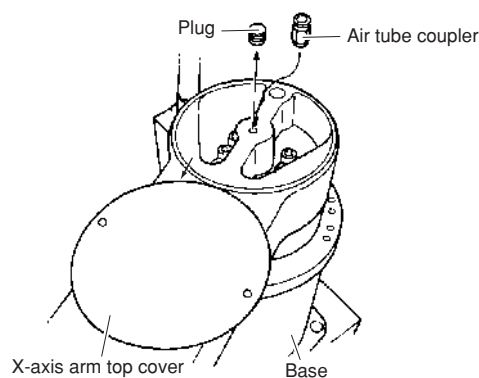

Fig. 5-25
- 6) Remove the plug on the top of the X-axis arm. (See Fig. 5-25.)